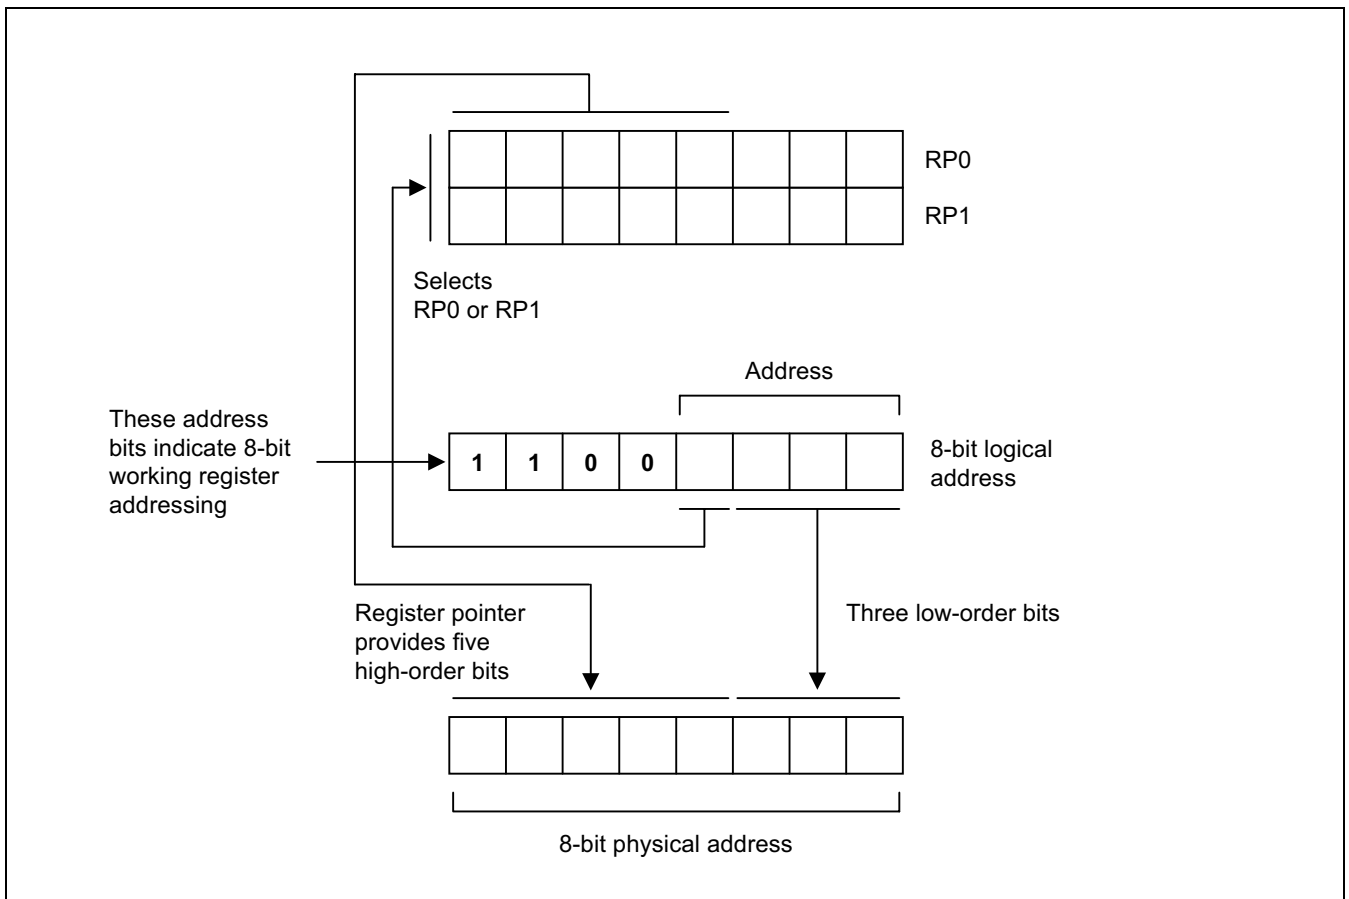

Figure 2-14. 8-Bit Working Register Addressing
Figure 2-14 shows an example of 8-bit working register addressing. The four high-order bits of the instruction address (1100B) specify 8-bit working register addressing. Bit 4 ("1") selects RP1 and the five high-order bits in RP1 (10101B) become the five high-order bits of the register address. The three low-order bits of the register address (011) are provided by the three low-order bits of the 8-bit instruction address. The five address bits from RP1 and the three address bits from the instruction are concatenated to form the complete register address, 0ABH (10101011B).